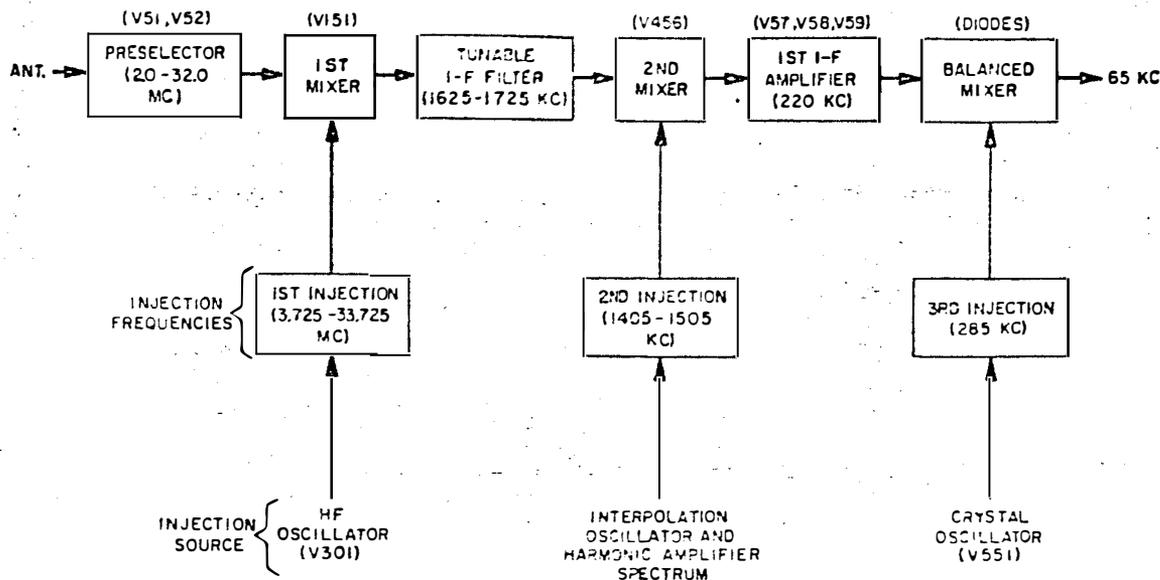

Figure 4-3. Countermeasures Receiver R-1125/FLR,
d. TRIPLE FREQUENCY CONVERSION. - Figure 4-3 is a block diagram showing the development of the three i-f frequencies in the receiver. The preselector r-f amplifiers select an operating frequency between 2.0 and 32.0 mc and apply the signal, after amplification, to the first mixer. The mixer combines the received signal with the first injection frequency of 3.725 to 33.725 mc supplied by the high-frequency oscillator, to produce the first i-f frequency of 1625 to 1725 kc. The tunable i-f filter selects the difference frequency from the combined signals. A description of the receiver tuning system is given in paragraph 4-1e.